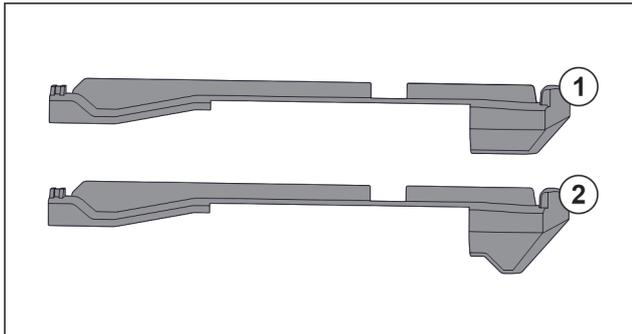

Fig. 69 Comparing attachments
There are two different attachments in the appliance. The attachment above the lowest drawer Fig. 69 (2) has a three-cornered edge. All other attachments Fig. 69 (1) have a straight edge.
- ▶ Fit attachment Fig. 69 (2) with the three-cornered edge above the lowest drawer.
- ▶ Fit attachment Fig. 69 (1) with straight edge in all other positions.